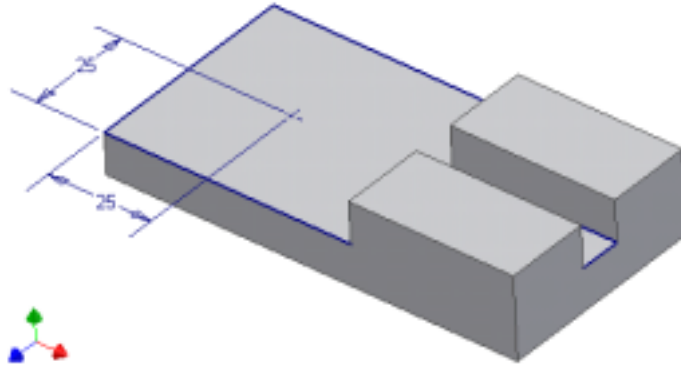

Figure 3-6
6. Rotate the display and construct another sketch in accordance with Figure 3-6.